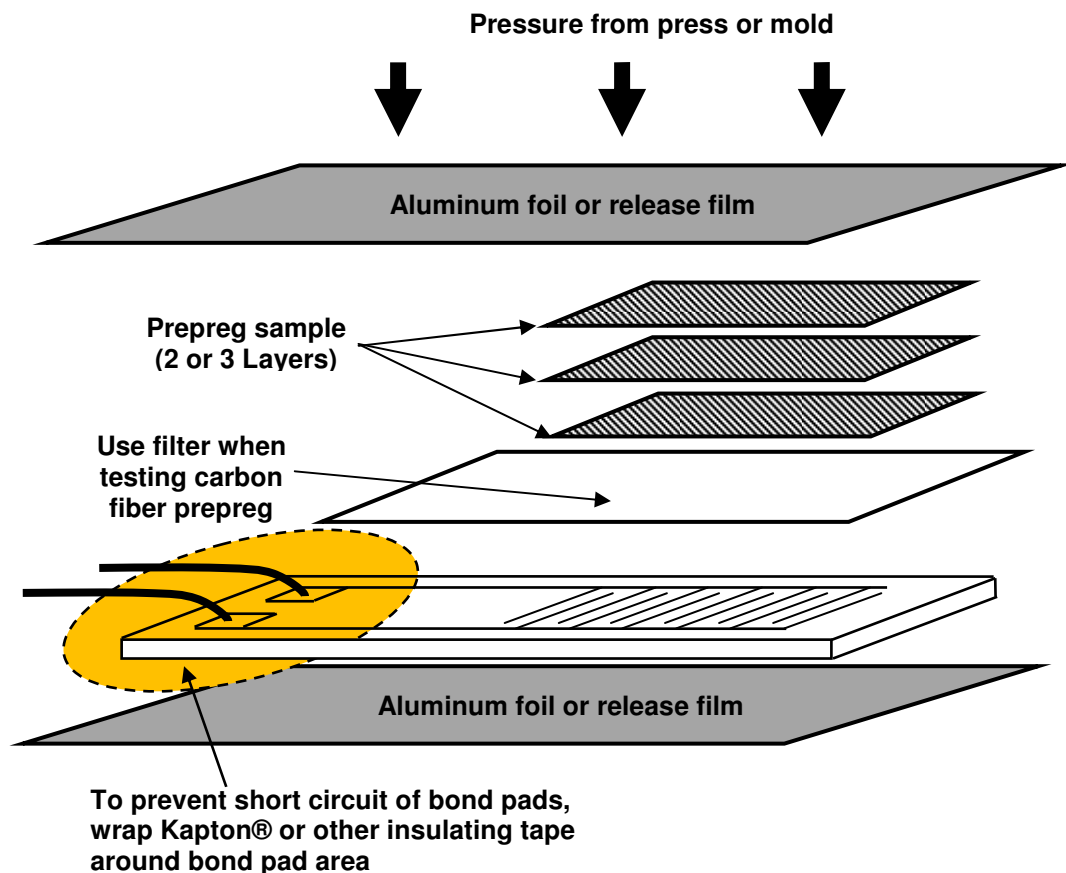

Figure 4
- Do use a filter between the sensor and materials containing graphite or conductive fibers, as shown in Figure 4
- Do use aluminum foil or release film above and below the lay-up, as shown in Figure 4, to prevent the sample from adhering to platen or mold surfaces